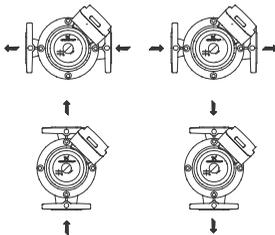

Fig. 4 Flow directions, single-head pumps
- Figure 4: Standby operation with pump 1 as duty pump and pump 2 as standby pump.